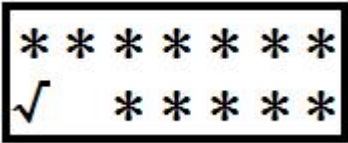
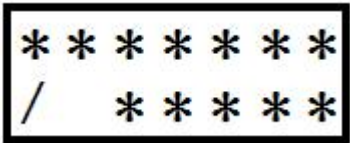

Fig.49
Fig.50
⑪ Exit the menu; it can be noted that the current current characteristic function has been changed to a linear square root, as shown in Figure 49; when the characteristic function is linear, the display shows as shown in Figure 50.